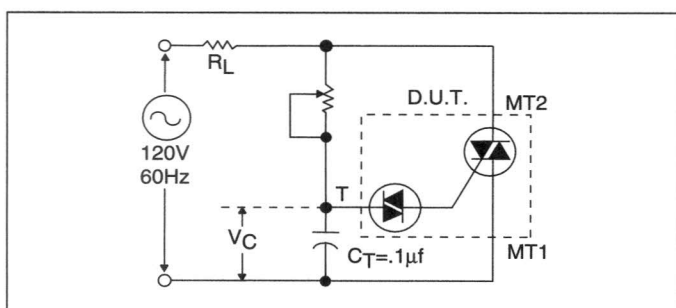

Figure 3.2 Test Circuit
- See Figures 3.2 and 3.3 for test circuit.